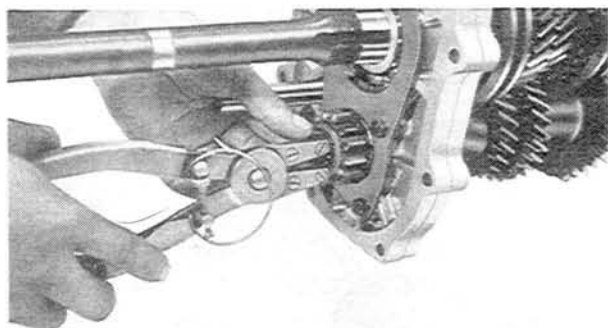

Fig. 7-12 Removing of snap ring
21. Remove the snap ring from the rear of the counter shaft and slide off the counter reverse gear as shown in Fig. 7-12.